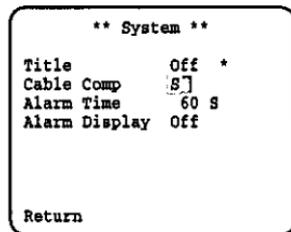

Fig. 27
1. Display the System Menu as shown in Fig. 27 by repeating the previous procedures.
(4) Alarm Display Setting